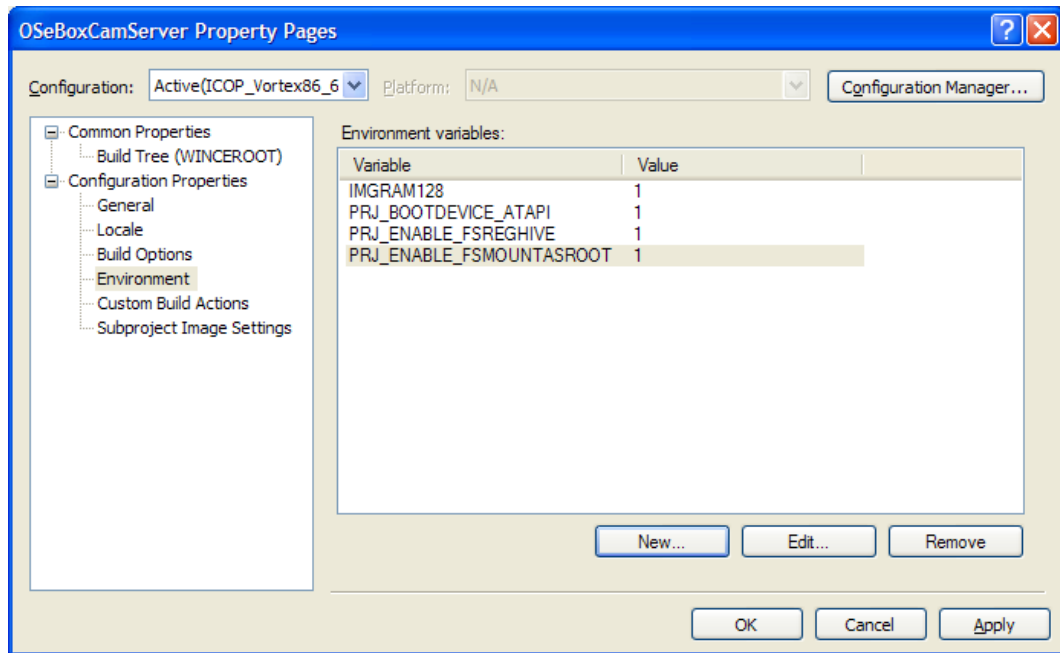

Figure 50. VS 2005 Property Page
22. Enter new variable name and set associated value for the following environment variables as shown in figure 50. Click New; enter variable name, and variable value. Refer to table below: